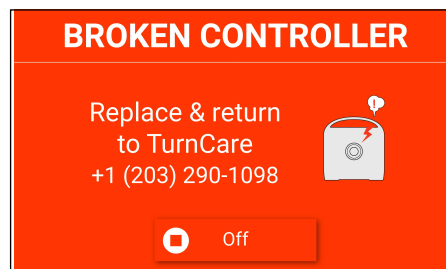

Figure 32. Broken Controller alert screen
1. If the Guardian System 2.7 detects a controller malfunction that is interfering with therapy, it will alert the user. The controller must be removed from service, replaced immediately, and returned to TurnCare. (Fig. 32)